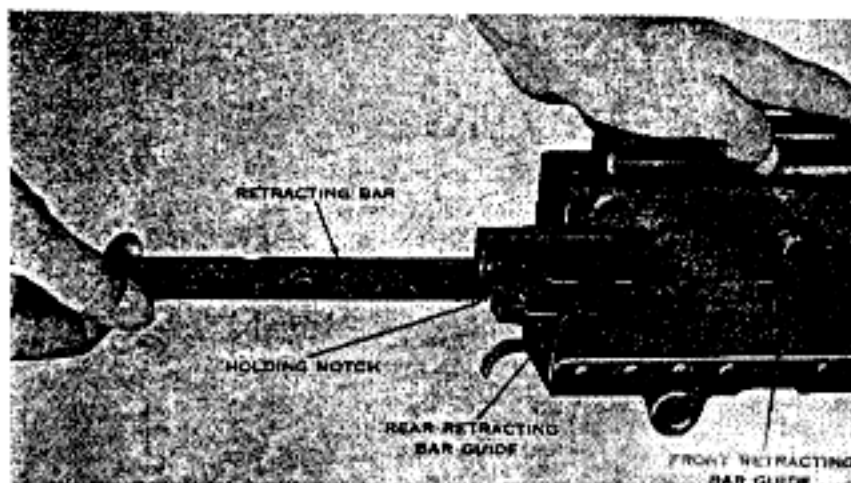

Figure 28. Replacing the retracting bar (M37).
- (5) For the M37 machinegun, replace the retracting bar (fig. 28). Replace the bolt by aligning the bolt stud hole in the bolt with the corresponding hole in the right side plate, then insert the bolt stud (fig. 29). Place the driving spring assembly in the bolt grasp; push forward on the driving spring rod until the bolt group moves forward and is locked to the barrel extension. Press the driving spring rod to the right to engage the head in its slot in the right side plate (fig. 16).